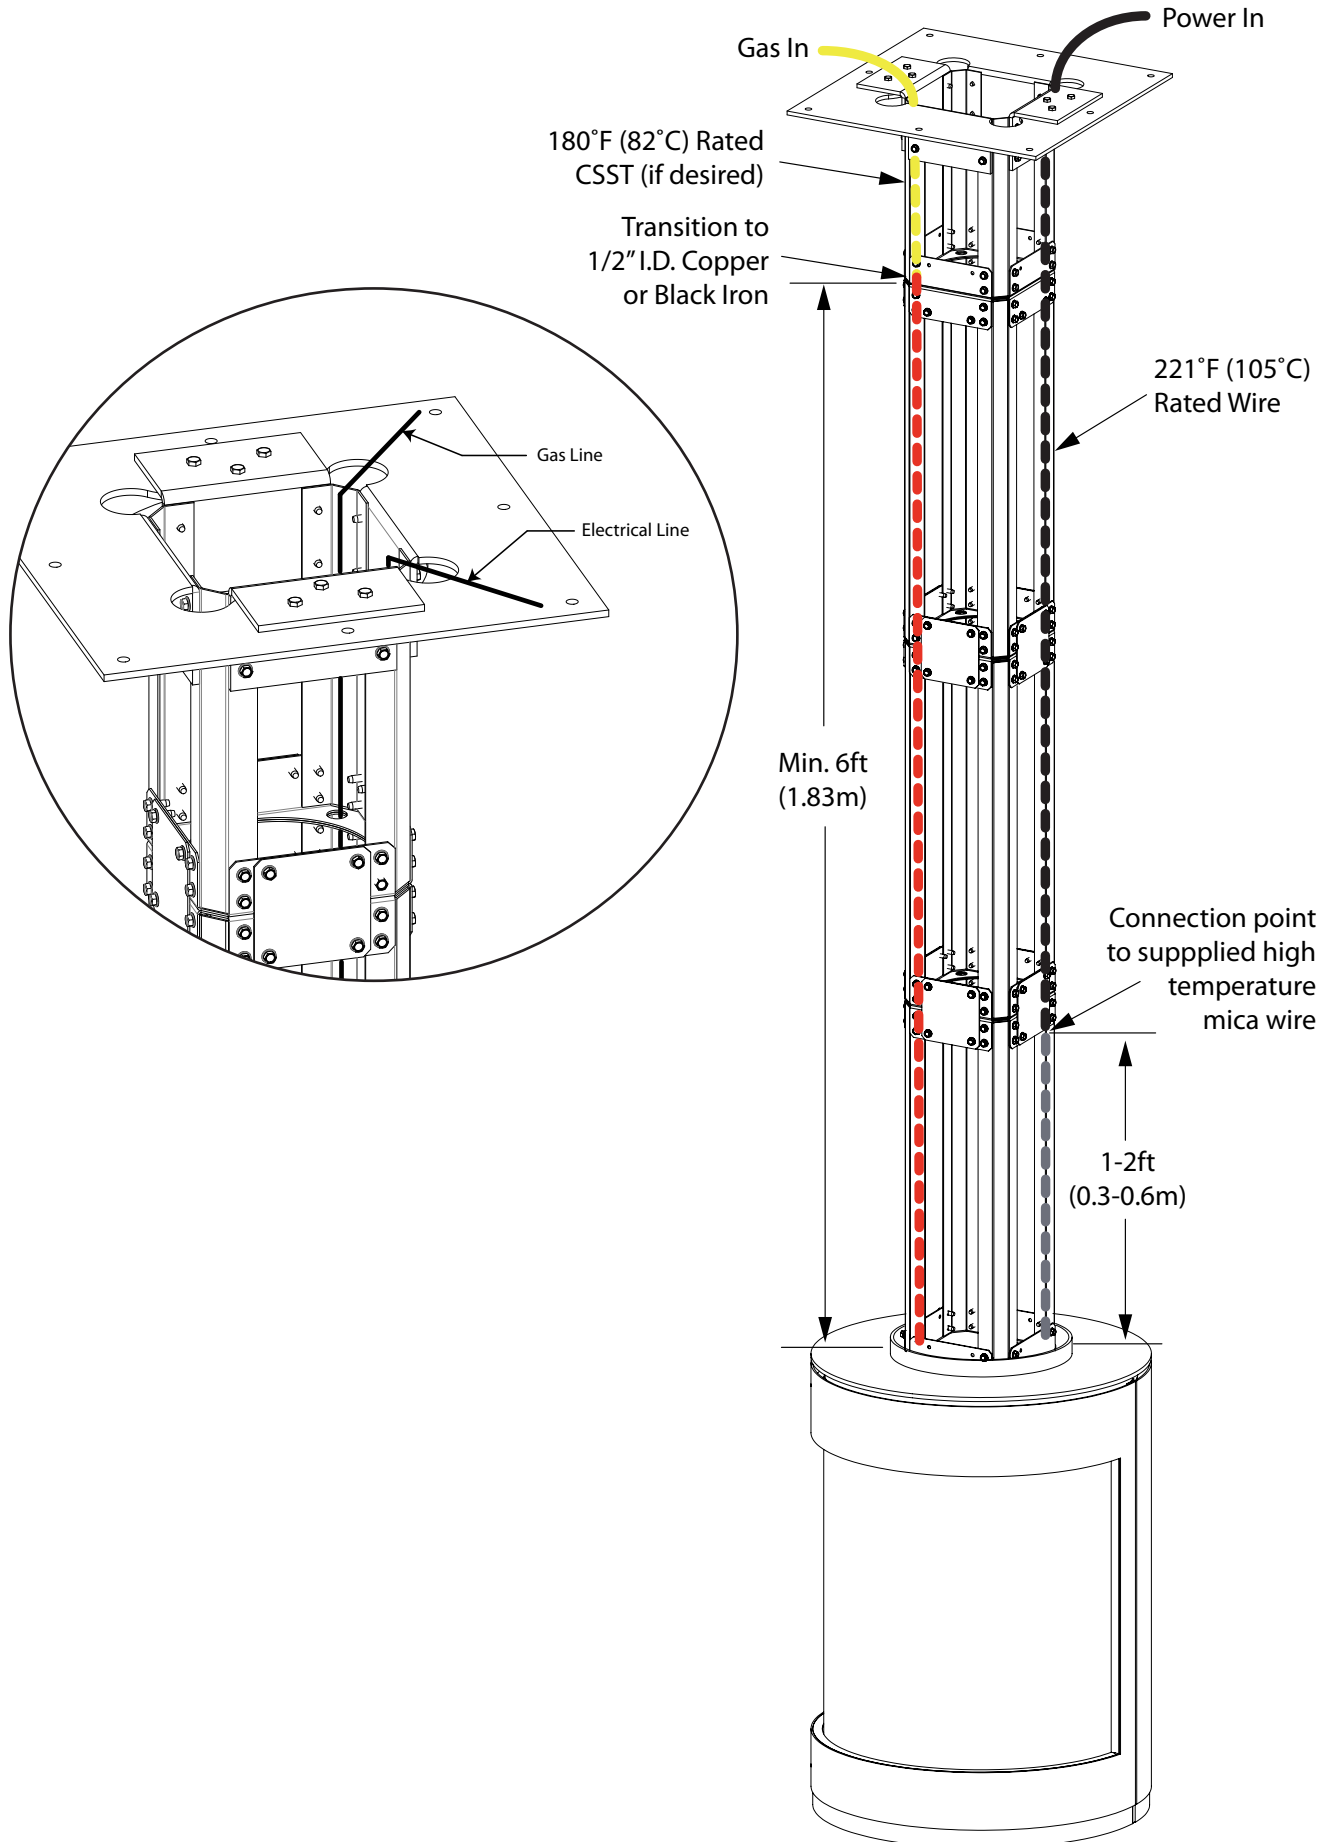

Figure 10: Gas/Electrical Line Through Structure
- CSST must stop a minimum height of 6 ft (1.83m) above the top of the S50 and transition to copper tube or black iron pipe as shown in figure 10. Using CSST within the suspension structure closer than 6ft (1.83m) will expose it to temperatures above the maximum rating.
Retrieve the power cable included in the kit. From the top of the suspension structure, thread the power cable and gas line through the holes that align with the rear side of the unit as shown in Figure 10. Thread both lines through the entire suspension structure and provide additional length at the very end.